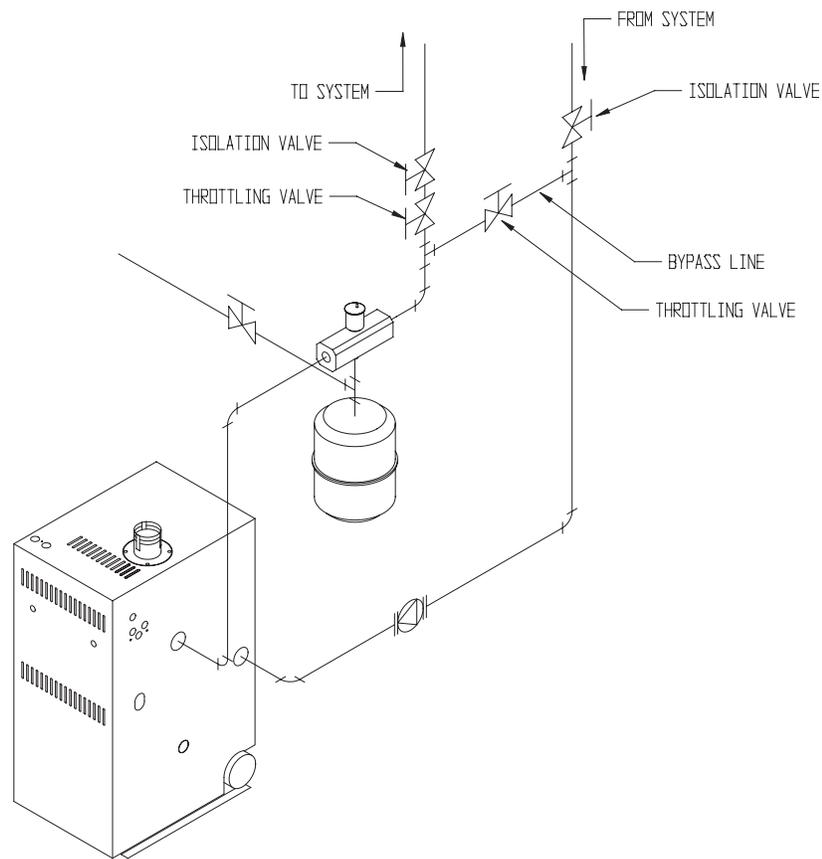

FIGURE 8.3: BYPASS PIPING
- 2) Gravity and “Large Water Volume” Systems – The piping shown in Figure 8.3 will minimize the amount of time that the boiler operates with return temperatures below 120F on these systems. A bypass is installed as shown to divert some supply water directly into the return water. The bypass pipe should be the same size as the supply. The two throttling valves shown are adjusted so that the return temperature rises above 120F during the first few minutes of operation. A three-way valve can be substituted for the two throttling valves shown. If the circulator is mounted on the supply, the bypass must be on the discharge side of the circulator.